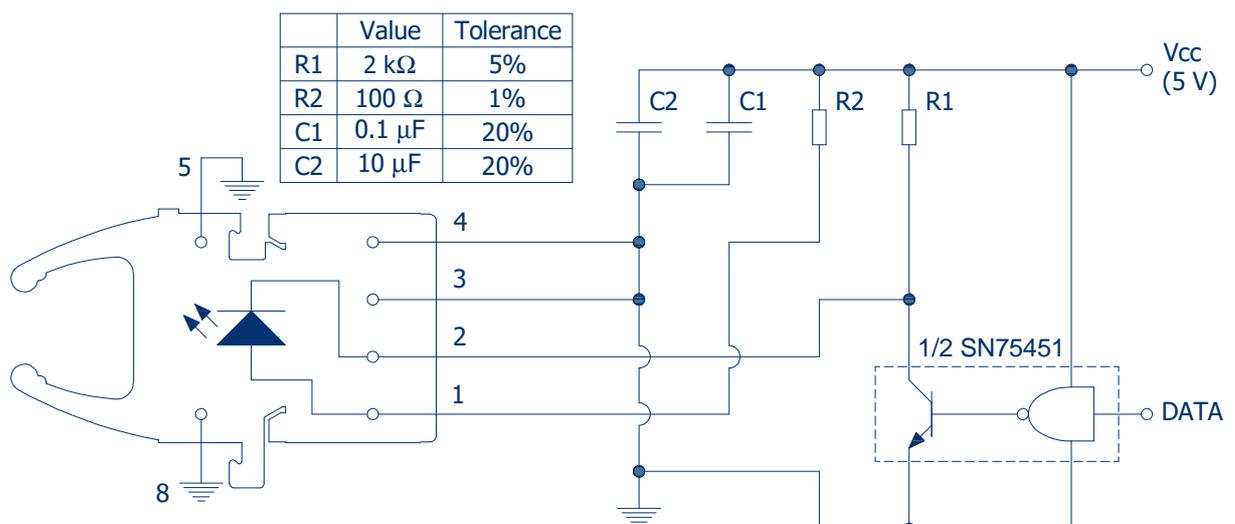

FIGURE 2
Transmitter Propagation Delay and rise/fall time definitions as per application circuit of Figure 2
3. As measured in the given application circuit (inverting) as shown in Figure 2 with 50 cm of 0.5 NA POF